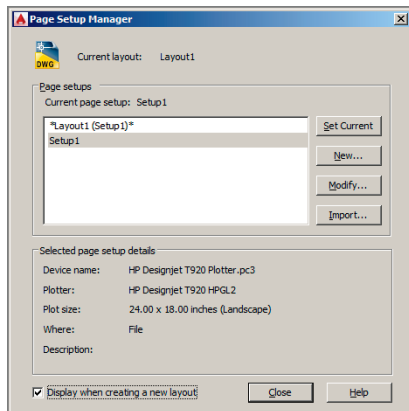

FIGURE 14.19 Saving a page setup for use in the next layout
4. The Page Setup Manager dialog box now lists Setup1 as a saved page setup. Select `Display When Creating A New Layout` (see Figure 14.19). Click the Set Current button, and then click Close.